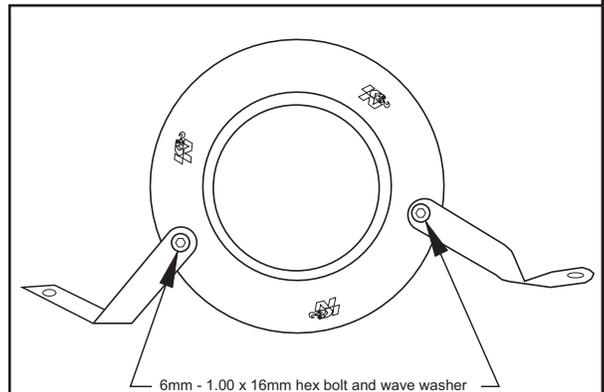

fig. 1
- 3) Bolt the new brackets to the aluminum velocity adapter, as illustrated in fig. 1